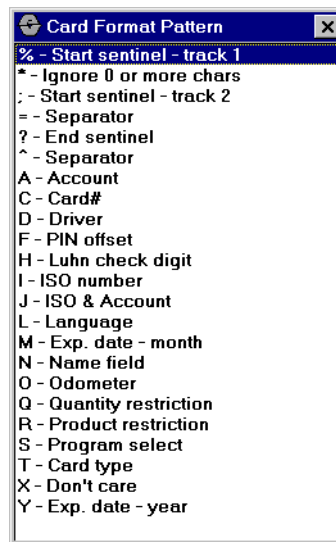

Figure 53: Card Patterns
24. Click the **View Pattern** button to open the Card Format pattern window, *Figure 53*